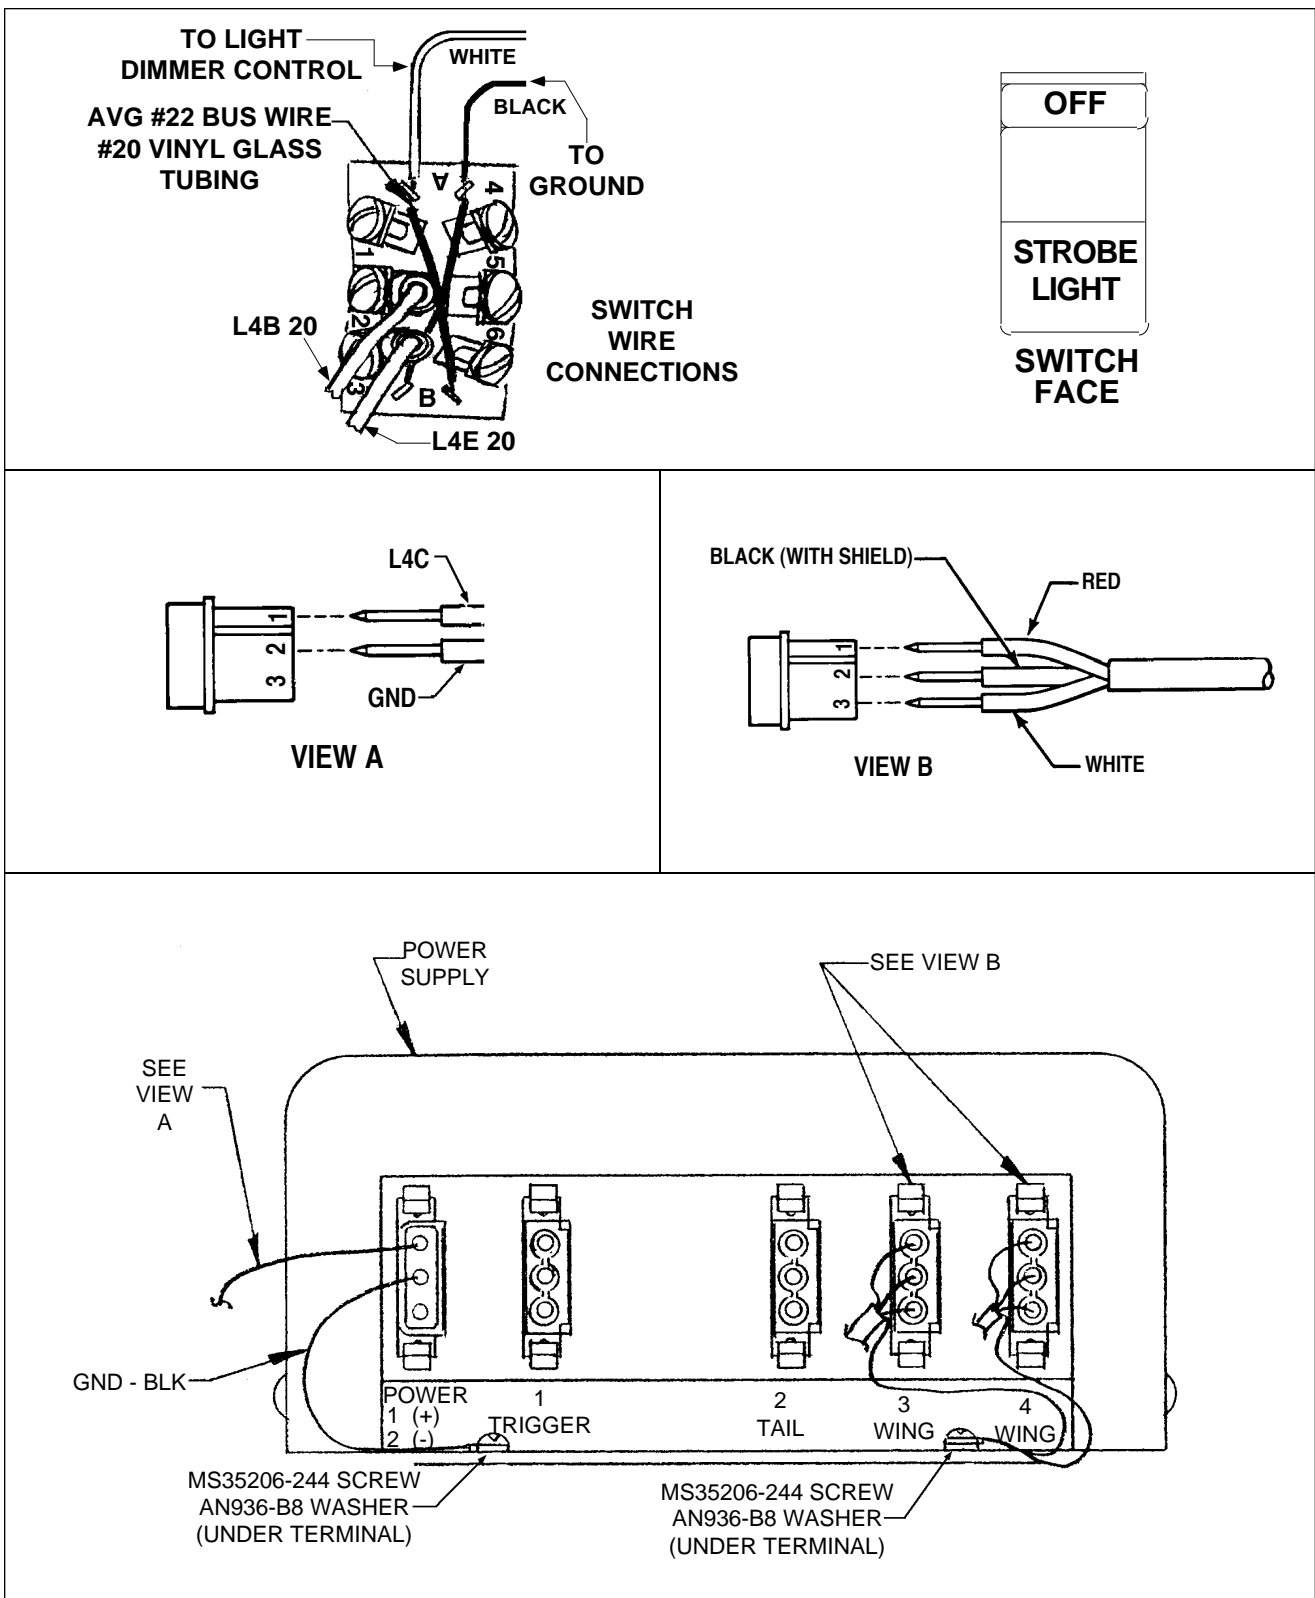

Figure 33-6. Archer III Strobe Light Connections
5. Strobe Power Supply (Refer to Figure 33-6)
- (1) Ensure that the BATT MAST and STROBE LIGHT switches are in OFF position.
- (2) Disengage (pull out) ANTI-COLL LIGHTS circuit breaker.
- (3) Remove access panel to aft section of fuselage in the rear baggage compartment to gain access to the power supply.
- (4) Disconnect electrical plugs (three each). Note the placement of plugs to aid installation.
- (5) Note and mark location; then disconnect the other electrical leads.
- (6) Remove four screws holding power supply to fuselage. Remove power supply.
b. Installation Of Strobe Power Supply (Refer to Figure 33-6)
- (1) Position power supply in place and secure with the four screws previously removed.
- (2) Connect electrical leads in proper place.
- (3) Connect electrical plugs in proper place.
- (4) Set (push in) ANTI-COLL LIGHTS circuit breaker.
- (5) Verify lights are working by selecting BATT MAST and STROB LIGHT switches ON and checking that both *strobe* lights flash. Select BATT MAST and STROB LIGHT switches OFF.
- (6) Replace access panel in rear baggage compartment.